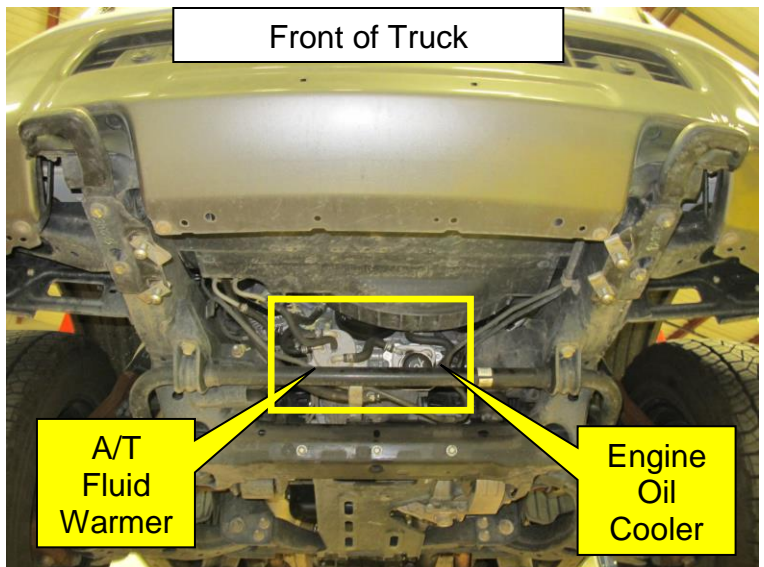

Figure 4
5. Locate the A/T fluid warmer and Engine Oil Cooler at the front of the oil pan (Figure 4, 5).